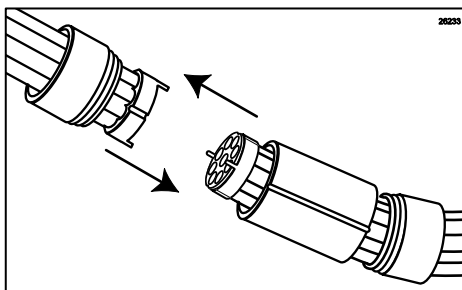

Figure 122
3. Align the coupler pins of the two syrup lines and connect the assemblies. (See Figure 122.)